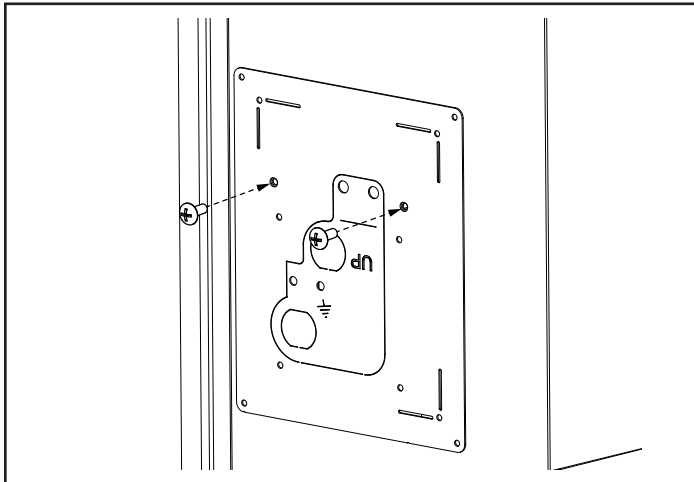

Figure 5
Hold plate in place using the (2) black sheetmetal screws that held the original circuit board plate to the hopper. Figure 5.